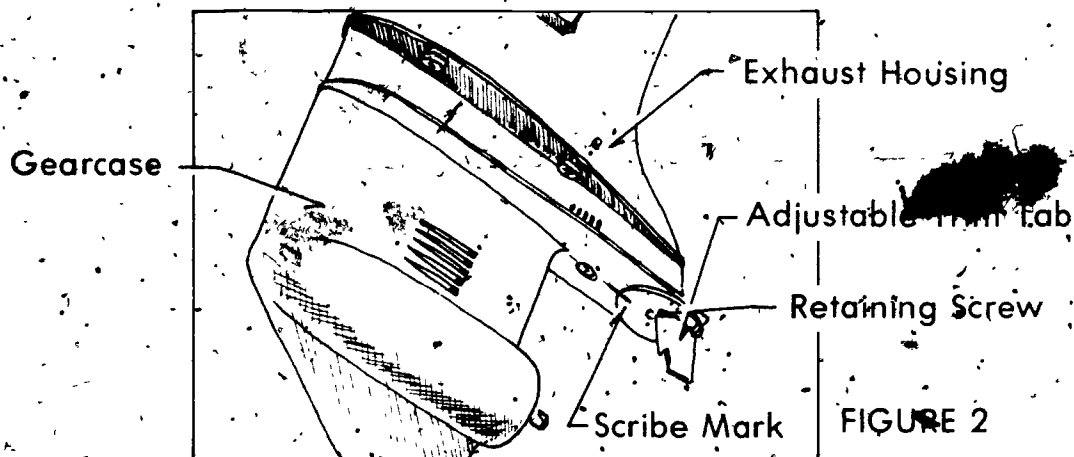

FIGURE 2
- E. Remove retaining screw and adjustable trim tab (Figure 2)